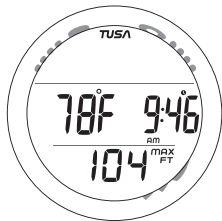

Fig. 65 - NO DECO ALT 1
**NORM No Deco ALT 1** information includes (Fig. 65) -